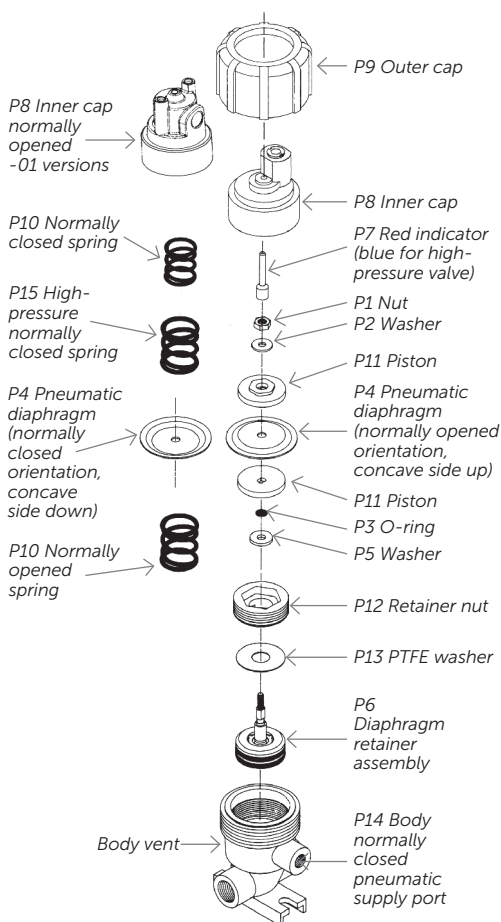

Figure 1
1. Refer to Figure 1 and begin disassembly by first holding the inner cap (P8) on the flat sections of the pneumatic supply port with an adjustable wrench (S5), while turning the outer cap (P9) in a counterclockwise direction with the outer cap wrench (T1).
13. Put lower piston (P11) in place. Orient the raised hexagonal surfaces facing away from the pneumatic diaphragm (see Figure 1).
14. On normally closed valves, place the pneumatic diaphragm (P4) onto the diaphragm stem with the concave side facing up (see Figure 1). On normally opened valves, place the pneumatic diaphragm (P4) onto the diaphragm stem with the concave side facing down (see Figure 1).
15. Put upper piston (P11) in place. Orient the raised hexagonal surfaces facing away from the pneumatic diaphragm (see Figure 1).